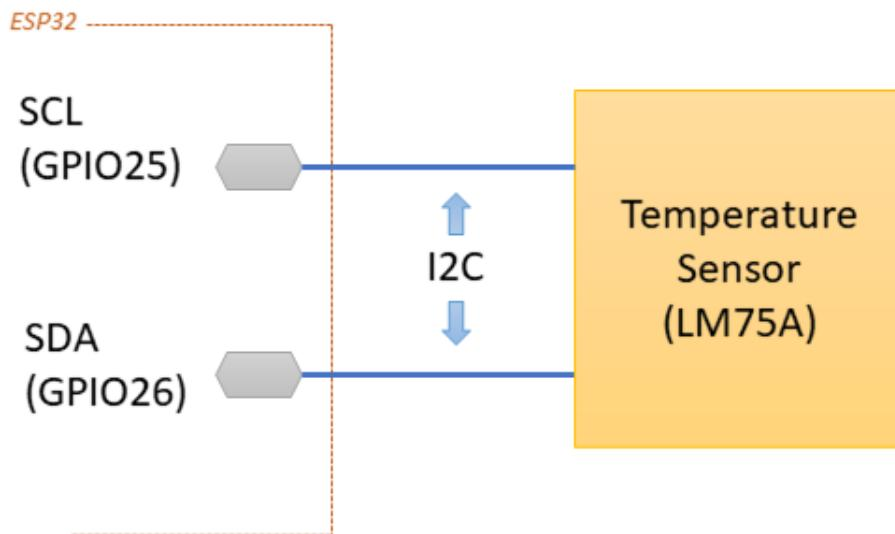

FIGURE 1.1 – Temperature sensor connections.
3. Wiring the sensor as shown in the figure 1.1.